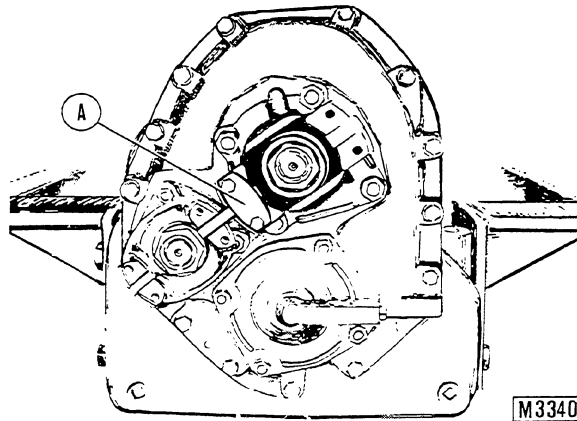

Fig. 3-7 - Securing transmission output shaft using retainer 75297149 (A).
- Using retainer 75297149 secure transmission output shaft as shown in fig. 3-7.